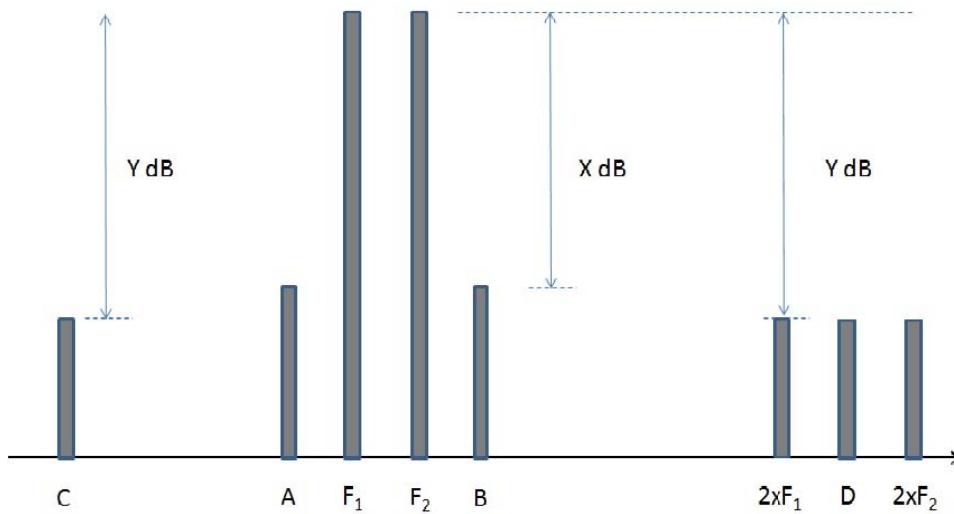

Figure 2. Intermodulation
Intermodulation occurs where two or more signals interact through the process of distortion to create additional spurious signals. The position of these these signals is always fixed in a relative way to the position of the signals that lead to their generation. The process can be illustrated by figure 2
As well as third order intermodulation, there may also be second order intermodulation effects and these are caused by second order distortion. Signals C and D in figure 2 are illustrations of second order intermodulation, where $C = F_2 - F_1$ and $D = F_2 + F_1$. These products will typically be at the same level as the second harmonics of the two applied signals. The typical characteristic of second order intermodulation products is that a 1 dB increase in the applied signals will result in a 2 dB increase in the second order intermodulation (IM2) products, so the difference between the IM2 products and the wanted signal (Y) will change by 1 dB for every 1 dB change in input power. In other words, IM2 products increase more slowly as the applied signal power increases than IM3 products and it is normal therefore for the second order input intercept point (IIP2) to be greater than the IIP3 for a given level of linearity.